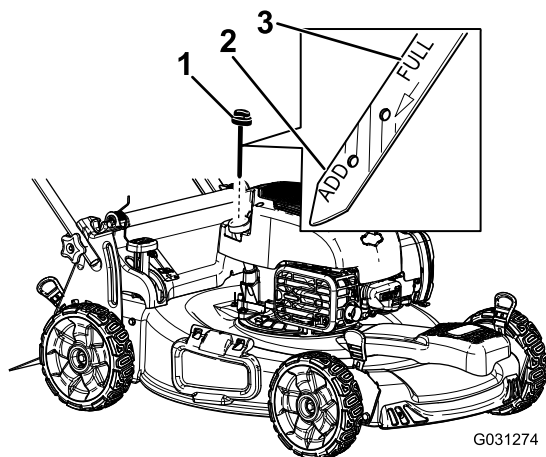

Figure 13
3. Remove the dipstick, wipe it clean, and fully install the dipstick (Figure 13).
4. Remove the dipstick and check the oil level (Figure 13). If the oil level is below the **Add** mark on the dipstick, slowly pour oil into the oil fill tube to raise the oil level to the **Full** mark on the dipstick. **Do not overfill.**